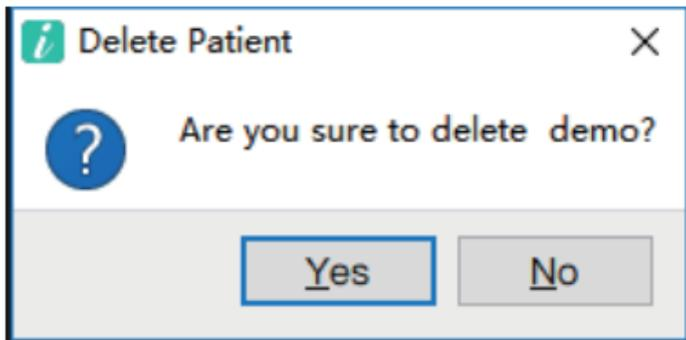

Figure 19
(3) Click "Delete Patient" to open the delete patient window, as shown in Figure 19. Select the "Yes" button to delete the patient, and select the "No" button to cancel the deletion.